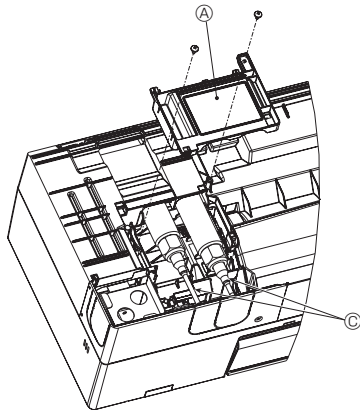
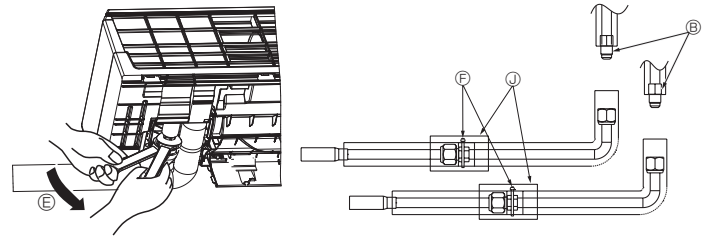

Fig. 3-16
Fig. 3-18
- (4) Remove Box cover Ⓐ. (Fig. 3-16)
- (5) Loosen the nut on the L-shape piping side with two wrenches, and remove and disposal the piping Ⓒ.
- (6) Direct the L-shaped connector toward the exiting direction of the piping and tighten it with two wrenches. (Fig. 3-18)